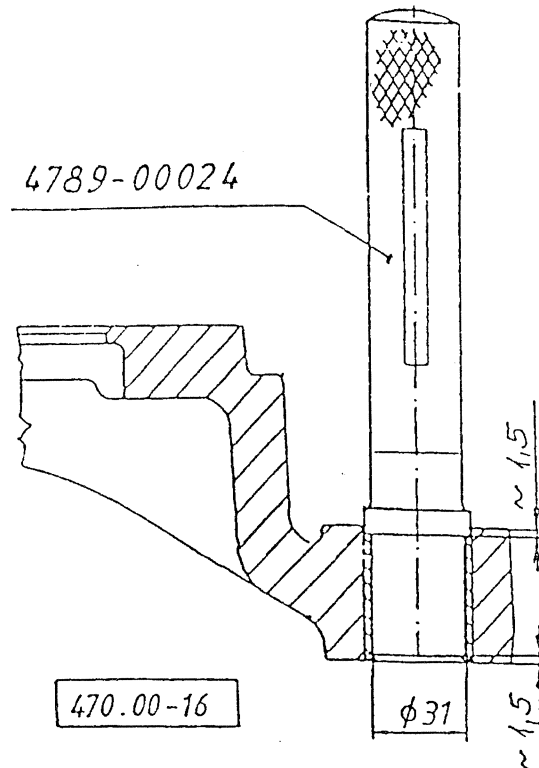

Fig. 1.: PRESSING THE BUSHING IN AND OUT
E.g.: If diameter of the trued up brake drum is **422 mm**, true up the brake shoe to **R210,6 - R210,3 mm** as shown in **Fig. 1**.
If the anchor pin bushing (13) are to be replaced, use the tool shown (Fig. 1.).